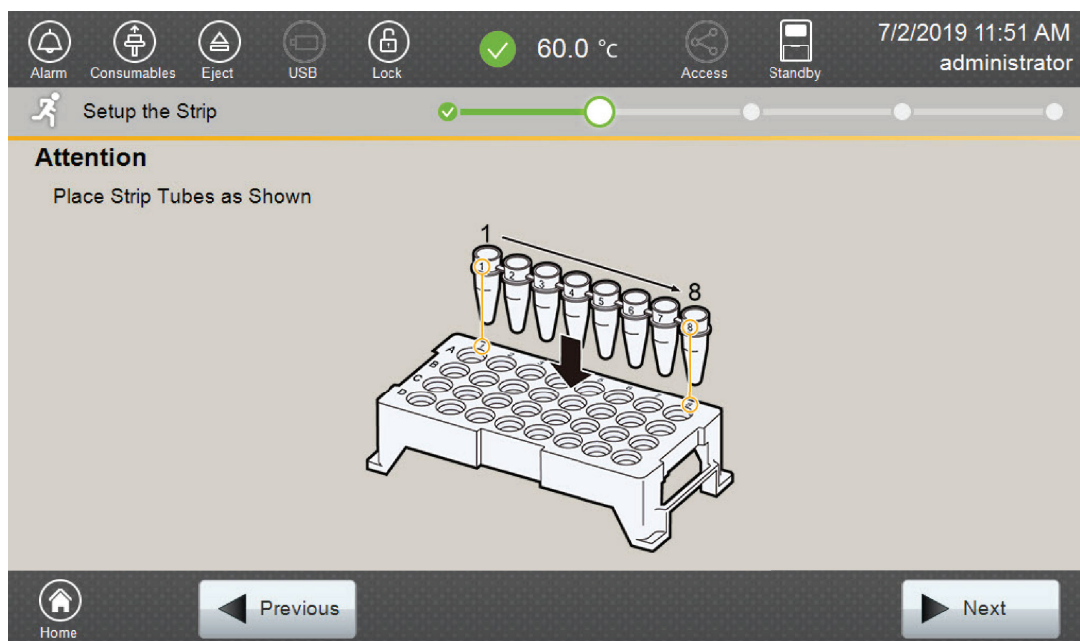
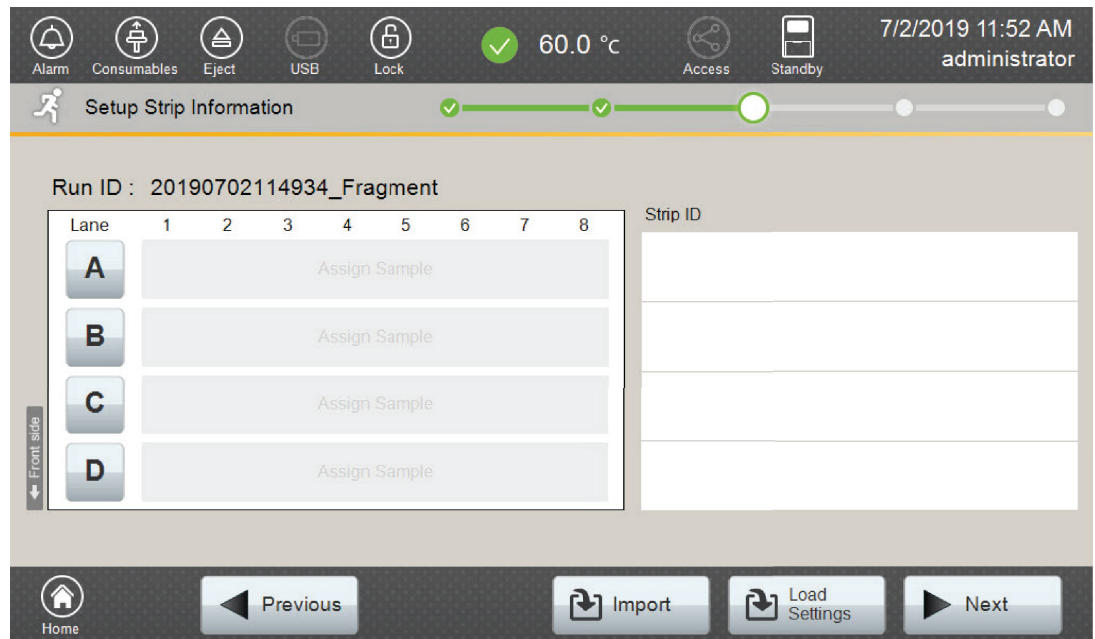

Figure 11. 'Setup the Strip' screen.
Figure 12. 'Setup Strip Information' screen.
- Follow the message screen for placement of strips into the sample cartridge (Figure 11).
1. Select **Next** on the 'Setup the Strip' screen shown in Figure 11. This will take you to the 'Setup Strip Information' screen shown in Figure 12.